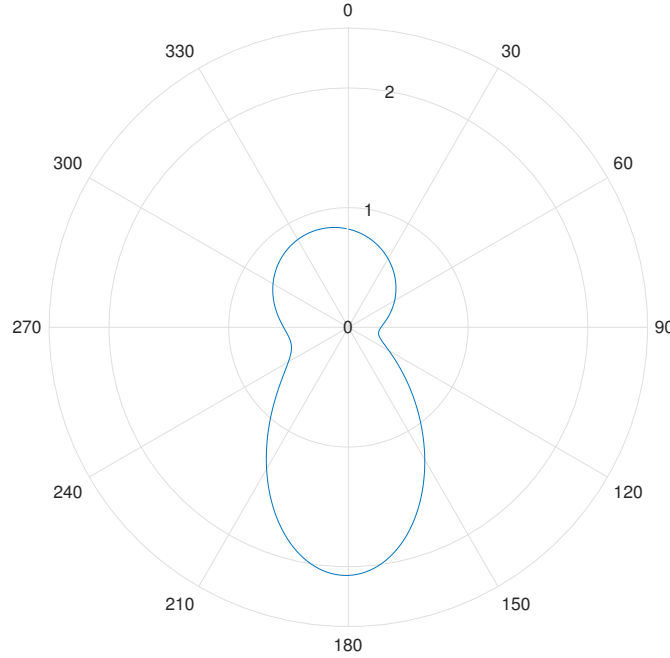

Figure 2: The wind frequency distribution; a bi-modal Gaussian distribution as defined in Eq. (2).
Wind direction probability will mimic those found in a geographically linear canyon, using a bi-modal Gaussian distribution. This distribution is defined in Eq. (2) and the wind rose is shown in Fig. 2.